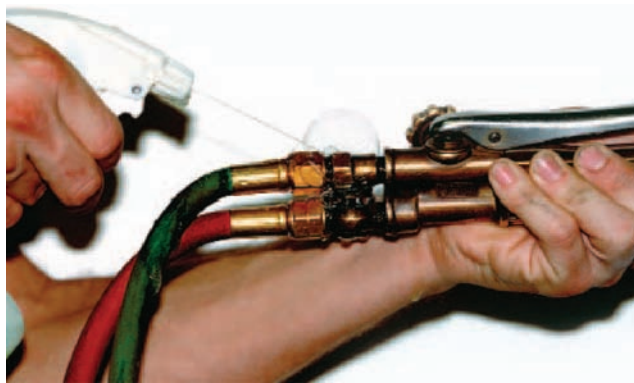

FIGURE 3-58 Spray fittings with a leak-detecting solution. Courtesy of Larry Jeffus.
7. Spray a leak-detecting solution on each hose and regulator connection and on each valve stem on the torch and cylinders. Watch for bubbles, which indicate a leak. Turn off the cylinder valve before tightening any leaking connections, Figure 3-58.